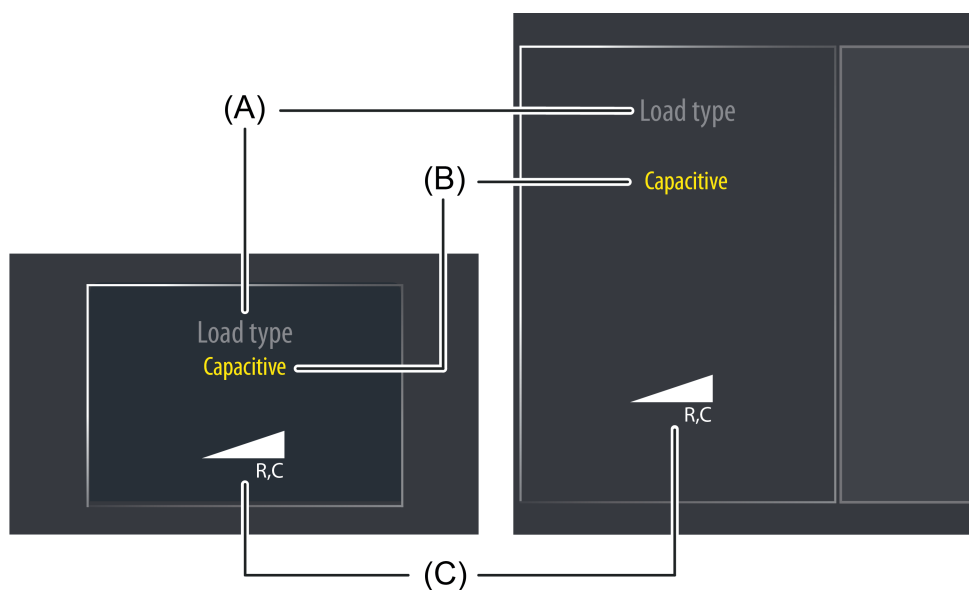

Figure 51: Example of a display element of the KNX function "dimmer actuator load type"
The display area contains different display elements (figure 51) that are influenced by parameters. A name can be assigned to each KNX function in the configuration software (A). This text name is centred in the display element for display whereby controllable KNX functions are identified for the user (e.g. "load type"). In addition, a status text (B) is displayed below the name, which visualises different texts in the display depending on the object value of the feedback. In the configuration software, the texts for the states "0 - Undefined", "1 - Capacitive", "2 - Inductive", "3 - Universal/Capacitive" and "4 - Universal/Inductive" can be defined separately from each other.